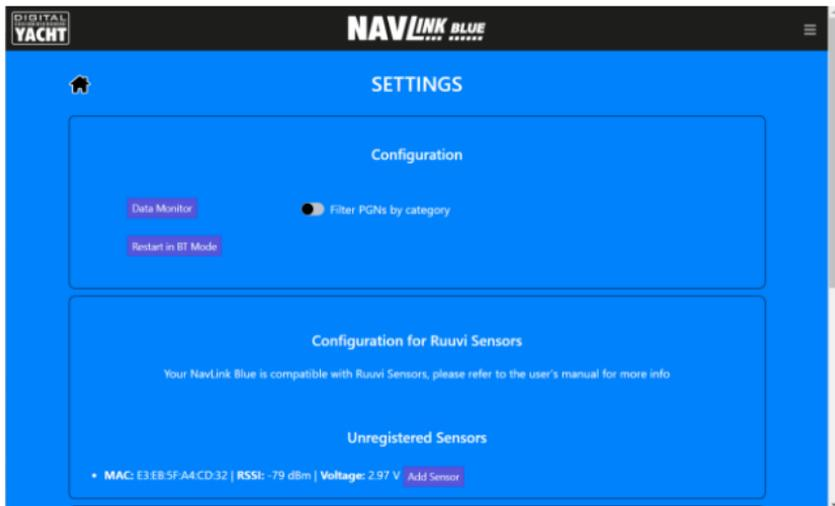

Figure 8
- To access the NAVLink Blue settings click on the SETTINGS button on the Home page and the page show in Fig 8 will appear.